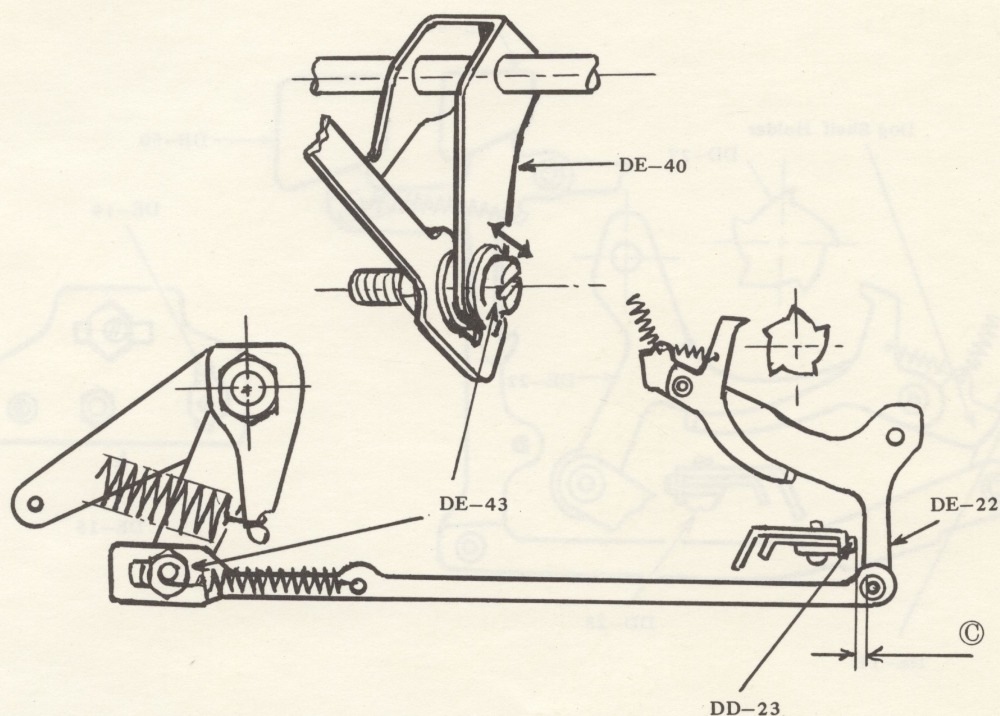

Fig. 18
- (4) With lowering DE-43 (Screw) adjust the clearance © between DE-22 (Shift Dog Shelf Holder) and DD-23 (Cushion Plate) to obtain 0.5 to 1.1 mm. (Fig. 18)